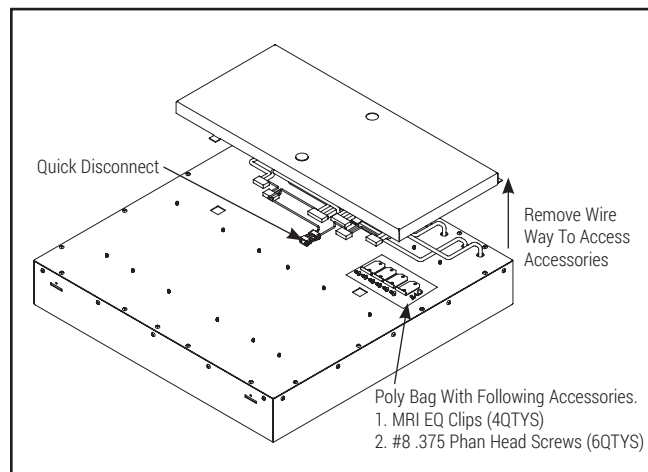

Figure 3.
6. Remove Wire Way To Access Accessories. (Figure 3.)
7. Install MRI EQ clips all 4 sides of the housing with provided slots and secure to housing with #8 screws provided in part bag.(Figure 3.)